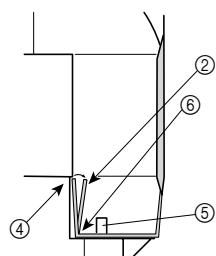

Fig 2-7-2
- a) The A portion ② on the left and right ribbon separator (see Fig. 2-7-1 and Figure 2-7-2) is inserted in the print head ③ corner B portion ④ so use the tweezers to bend it approximately 5 degrees, then remove and lift the ribbon separator directly upward from the print head.
- b) Use the tweezers to set the A portion on the left and right of the ribbon separator to fit into the corner of the print head and push near the C portion ⑥ (Fig. 2-7-2) until you hear a click.